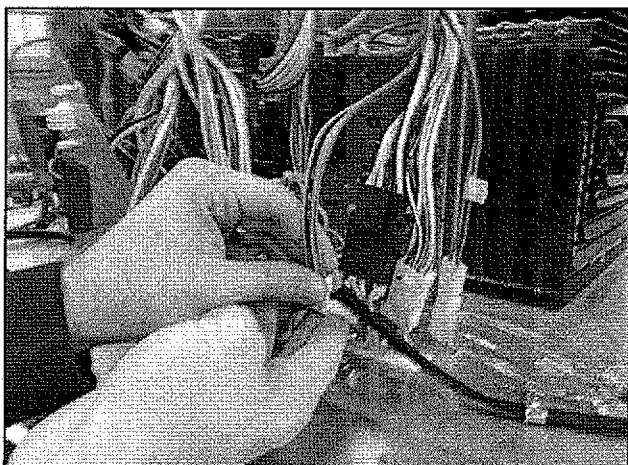

FIGURE 8
10. Disconnect refrigerator compartment connections by disconnecting the three connectors in the right grommet. See *Figure 8*.